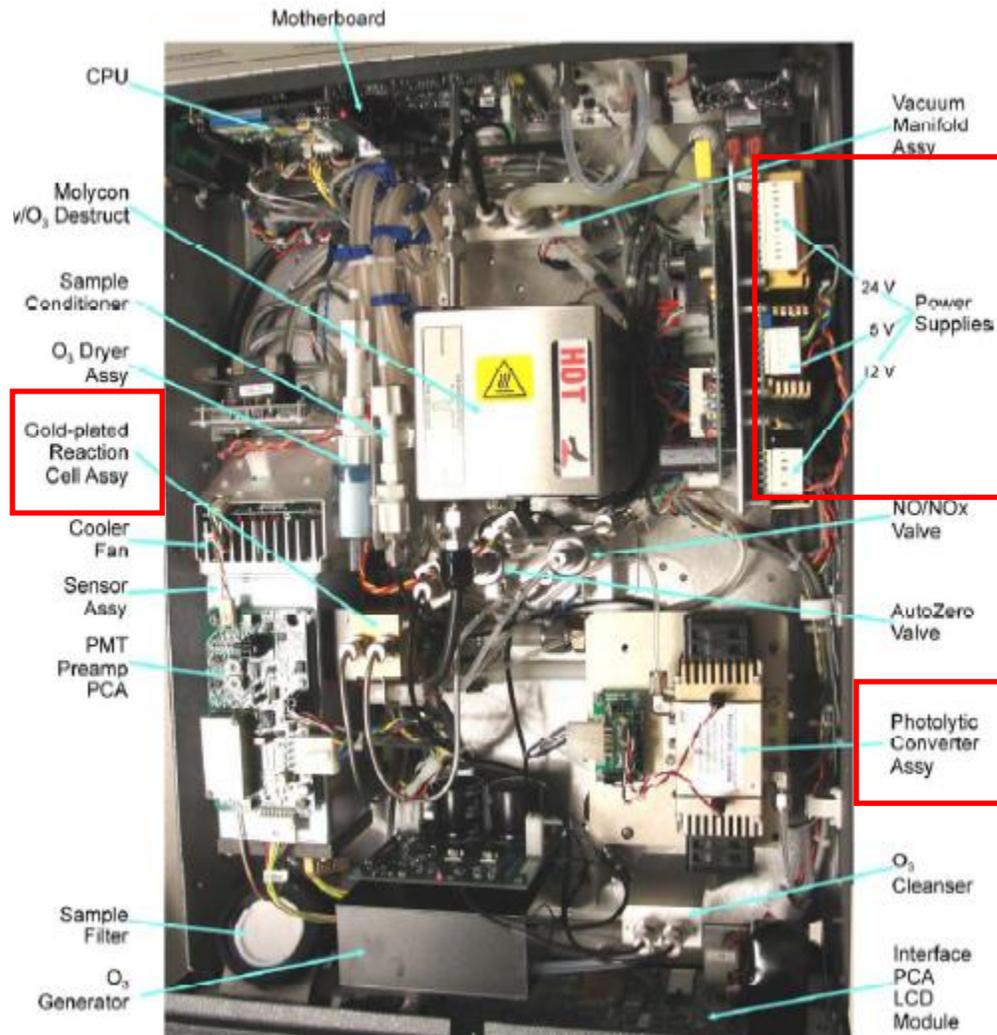
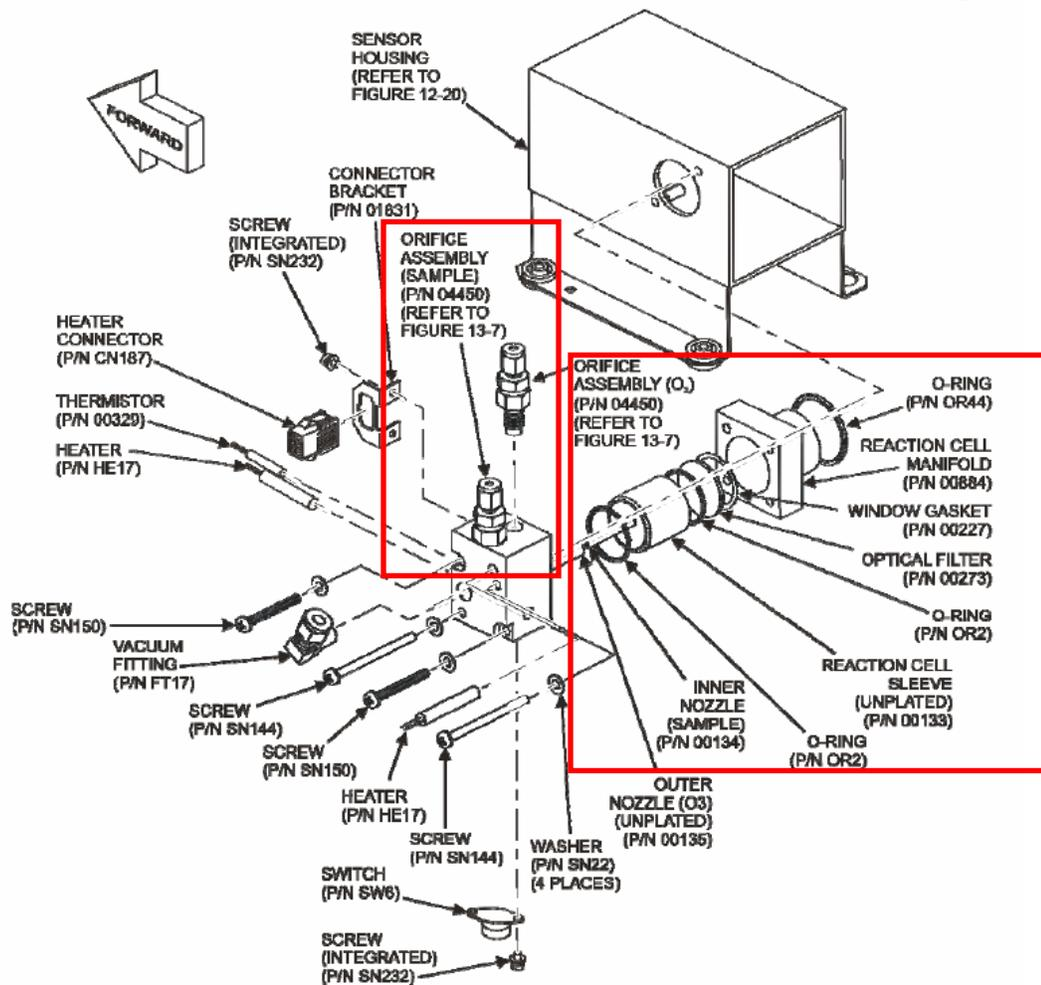

Figure 9 T200UP Top View
Figure 11 T200UP Reaction Cell
6. Locate the photolytic converter assembly (see **Figure 9**, pg. 39) and remove both lamp assemblies as follows:
A dirty reaction cell will cause excessive noise, drifting zero or span values, low response or a combination of all. Locate the reaction cell, see **Figure 9**, pg. 39 and **Figure 11**, pg. 42.
3. Locate the three DC Power Supplies, see **Figure 9**, pg. 39.
2. Remove the instrument cover, locate the converter (see **Figure 9**, pg. 39) and allow the photolytic converter to cool
2. Remove the analyzer cover and locate the reaction cell (see **Figure 11**, pg. 42).